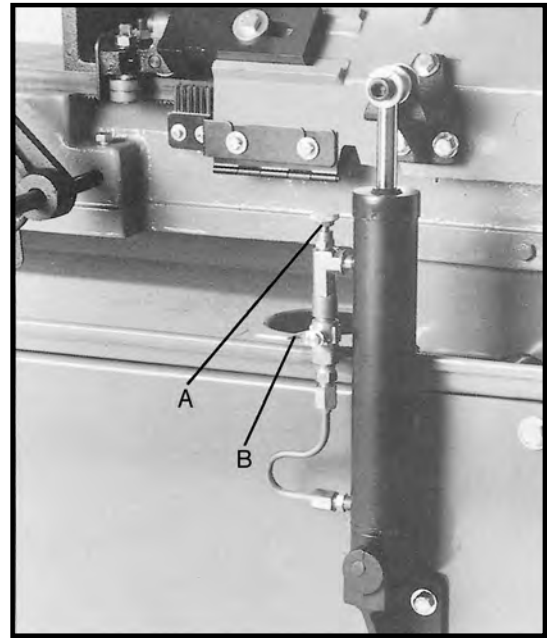

Fig. 3
The hydraulic feed selector is used to control the blade feed rate and to lock the arm in the vertical position. To increase the feed rate, turn knob (A, Fig. 3) counter-clockwise. To decrease the feed rate, turn knob (A) clockwise. To turn off the flow of hydraulic fluid, remain the lever (B) the same position as in figure 3. To turn the hydraulic cylinder on, raise the lever (B) to the 12 o'clock position.